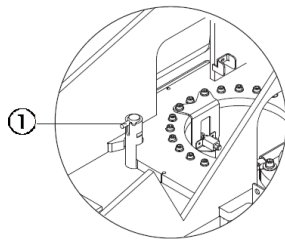

Fig. 10-1 Rotary table rotating lock pin
- 6) Ensure that the rotary table is secured with the rotary table rotary lock before transport, as shown in Figure 10-1. Ensure that the rotary table is unlocked during operation.
- 1) The rotary table should be locked with a turntable rotating locking pin each time the machine is transported, as shown in Fig. 10-1.